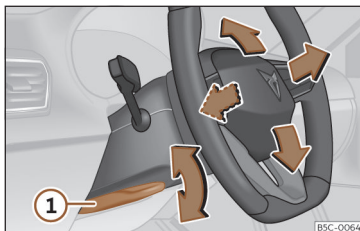

Fig. 84 Lever in the lower left side of the steering column.
- Pull lever >>> **Fig. 84** ① down, move the steering wheel to the desired position and lift the lever back up until it locks.
- After adjusting the steering column, push lever >>> **Fig. 84** ① firmly upwards so that the steering wheel does not accidentally change position while driving.